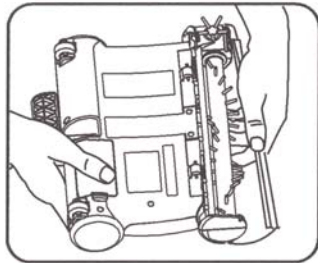

Fig. 11
4. Periodically, remove the transparent brush cover on the front of the cordless sweeper and remove any build up of lint, hair or fiber on the rotating brush. To remove the transparent cover – grip the cover from the bottom, pull out and upward until the cover unlocks from the side slots and tabs located on the top of the sweeper. Carefully cut away any threads or hair with scissors. (Fig. 11)